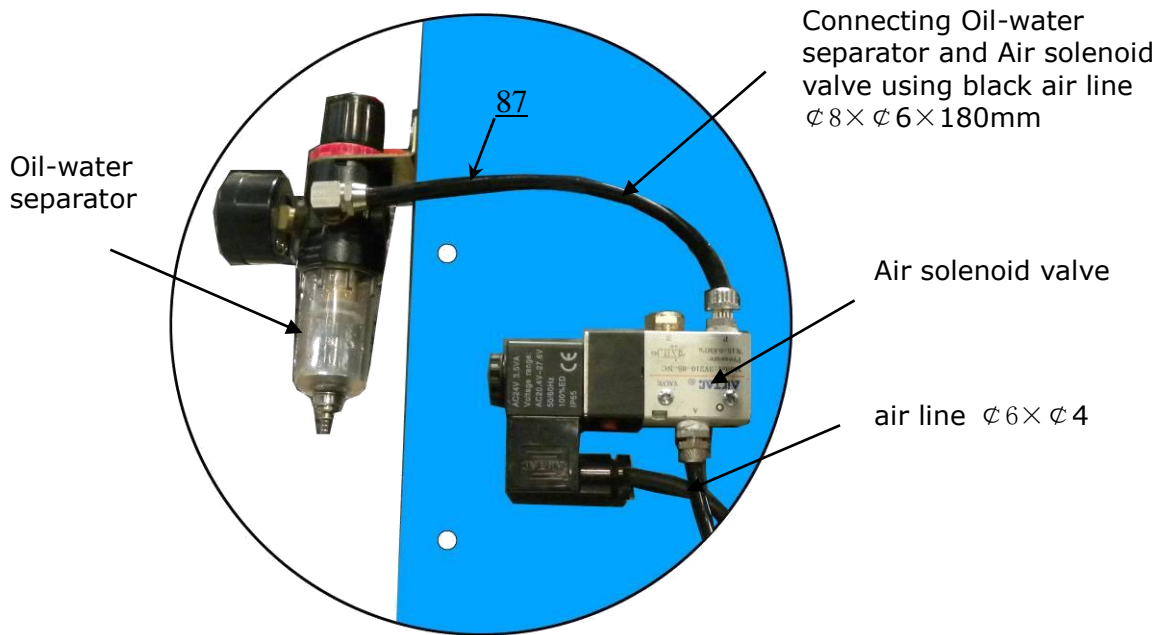

Fig. 28
4. Connecting Oil-water separator and Air solenoid valve using air line (**See Fig. 28**).